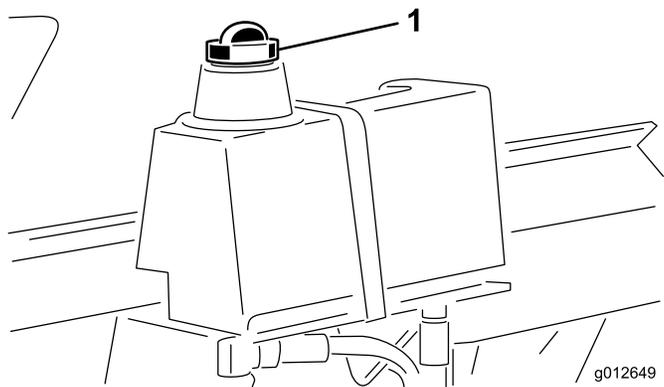

Figure 9
2. Clean area around filler neck and cap of hydraulic tank (Figure 9). Remove cap from filler neck.